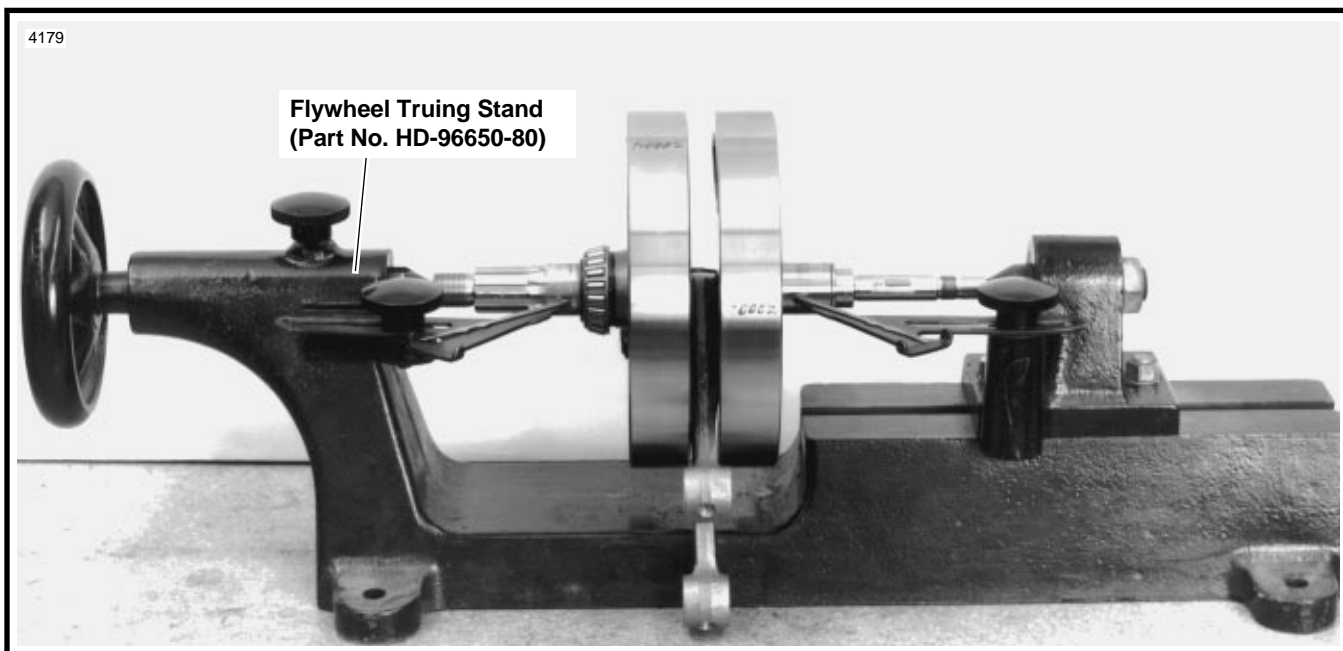

Figure 3-85. Truing Flywheel
9. Tighten crank pin nut to 150-185 ft-lbs (203-251 Nm). See Figure 3-85. Install flywheel assembly in FLYWHEEL TRUING STAND \(Part No. HD-96650-80\) as shown. Adjust so centers are snug. Wheels must turn freely; however, shafts must not be loose in centers. If flywheel assembly is either loose or squeezed, indicators will not indicate accurately. Adjust indicators to take reading as near to flywheels as possible, so pointers read at about the middle of the scales.
16. See Figure 3-85. Readjust centers, revolve wheels and take reading from indicator. Repeat truing operation until indicated shaft runout does not exceed 0.001 in. (0.025 mm) (each graduation on indicator is 0.002 in. (0.05 mm)).